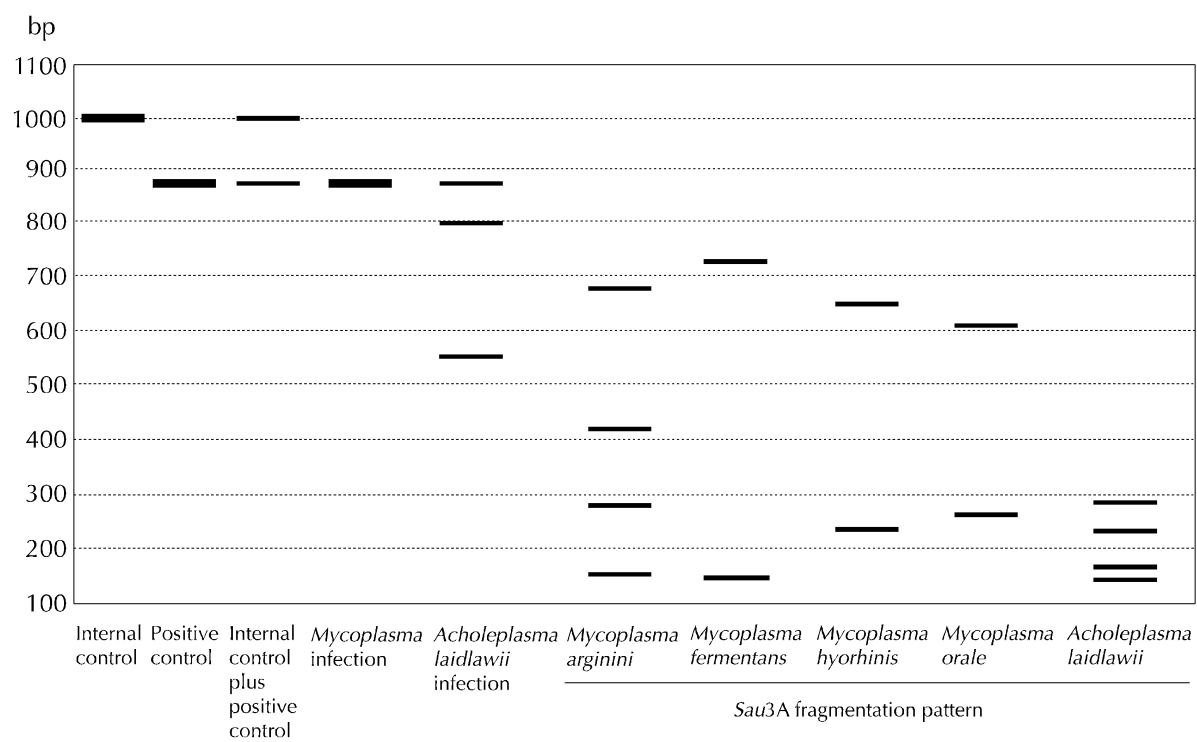

FIGURE 1. PCR products and fingerprints of the five most common cell-culture-infecting species of *Mycoplasma*.
If the cell line is infected with Mycoplasma, the PCR primers will yield a single 874-bp amplification product, regardless of which species of Mycoplasma is present in the sample. Restriction-fragment analysis of the amplification products using the restriction enzyme *Sau3A* I can corroborate the PCR results and determine which species of Mycoplasma is present in the sample. *Sau3A* I digestion of the Mycoplasma amplification products yields distinct fragmentation patterns (or fingerprints) that identify the Mycoplasma species. A species analysis is conducted by digesting a portion of the PCR sample, separating the restriction fragments using agarose gel electrophoresis, and comparing the fragmentation pattern to the fingerprints that identify the Mycoplasma species (see Figures 1 and 2).
- Using the following table and Figures 1 and 2, determine if the cell culture is infected with *Mycoplasma*.
- To corroborate the PCR results and to determine the species of *Mycoplasma*, compare the fragmentation pattern of the *Sau*3A I-digested PCR product to the fingerprints that identify the five most common cell-culture-infecting species of *Mycoplasma*. The fragmentation patterns are displayed in Figure 1 and Figure 2 (lanes 9–13), and the sizes of the restriction fragments are listed in the following table:
Note *There may be variations in the quantities of amplification products. As a result, the intensity of the amplified “Internal Control plus positive control” products may differ from the depiction in Figure 1.*
Should the fragmentation pattern of the sample differ considerably from those shown in Figures 1 and 2, it is possible that the cell culture is infected with either an uncharacterized species of *Mycoplasma* or a prokaryotic organism other than *Mycoplasma*. In this case, testing for a bacterial or a fungal infection may be the next step.
The PCR-amplification products are derived from Mycoplasma templates other than those shown in Figures 1 and 2, or they are derived from another prokaryotic species